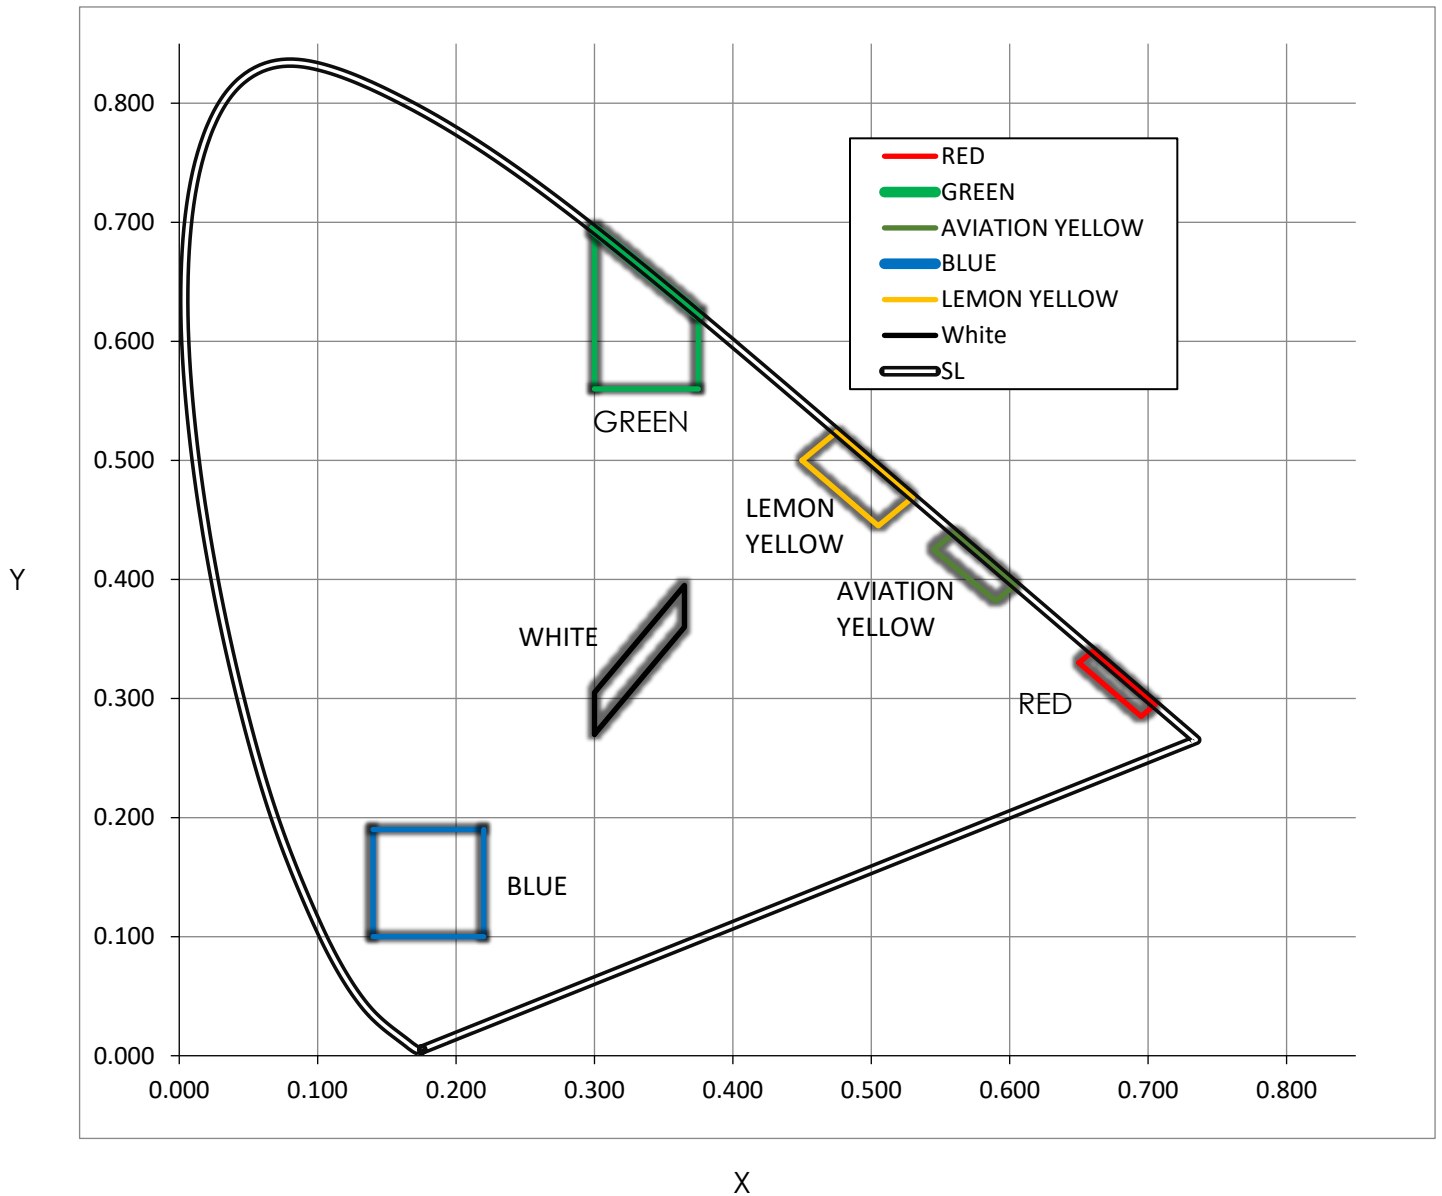

Figure 46: High Brightness LED Colors – CIE 1931 Chromaticity Diagram
3. Color, Series 90 Code, see Figure 46: High Brightness LED Colors – CIE 1931 Chromaticity Diagram below, and Table XXXVII: Model 92 High Brightness LED Pushbutton Configuration Table.
High Brightness LED colors are shown in Figure 46: High Brightness LED Colors – CIE 1931 Chromaticity Diagram. Note: The color limits of Figure 46: High Brightness LED Colors – CIE 1931 Chromaticity Diagram and Table XXIX: Color Limits are preliminary and subject to change.